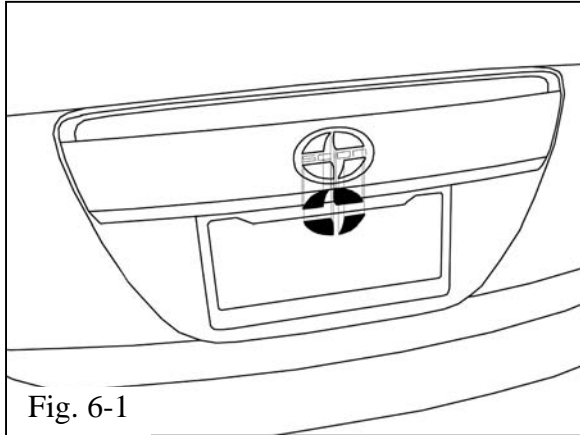

Fig. 6-1
- (1) Align cutouts around logo.
- (2) Align part uniformly to edge of factory component. Edge of appliqué should be flush to edge of factory component,  $\pm 1.0\text{mm}$ . (Fig. 6-1)
- (3) Gently touch part into position.